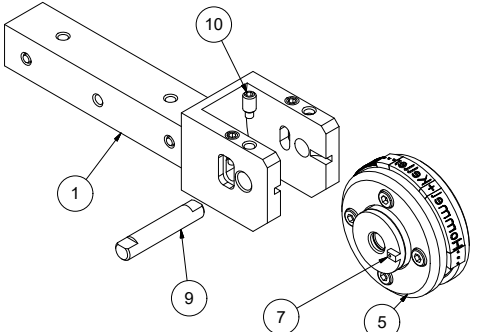

Figure 7: Installation of the carrier unit
Push the complete carrier unit (including the mounted spring housing) into the holder. In the process, ensure that the nose is guided into the groove (cf. Fig. 7). Then, slide the axle pin (Fig. 7, pos. 9) into the bore of the holder and clamp with the threaded pin (Fig. 7, pos. 10).